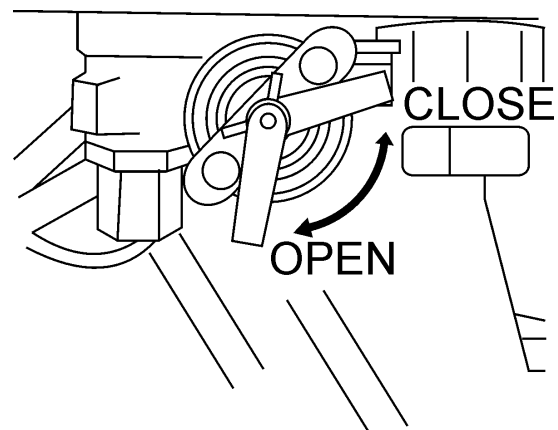

Figure 16. Open Fuel Cock
2. Open the fuel cock by turning it clockwise to the down position (Figure 16).
1. Open the fuel cock by turning it clockwise to the down position (Figure 16).